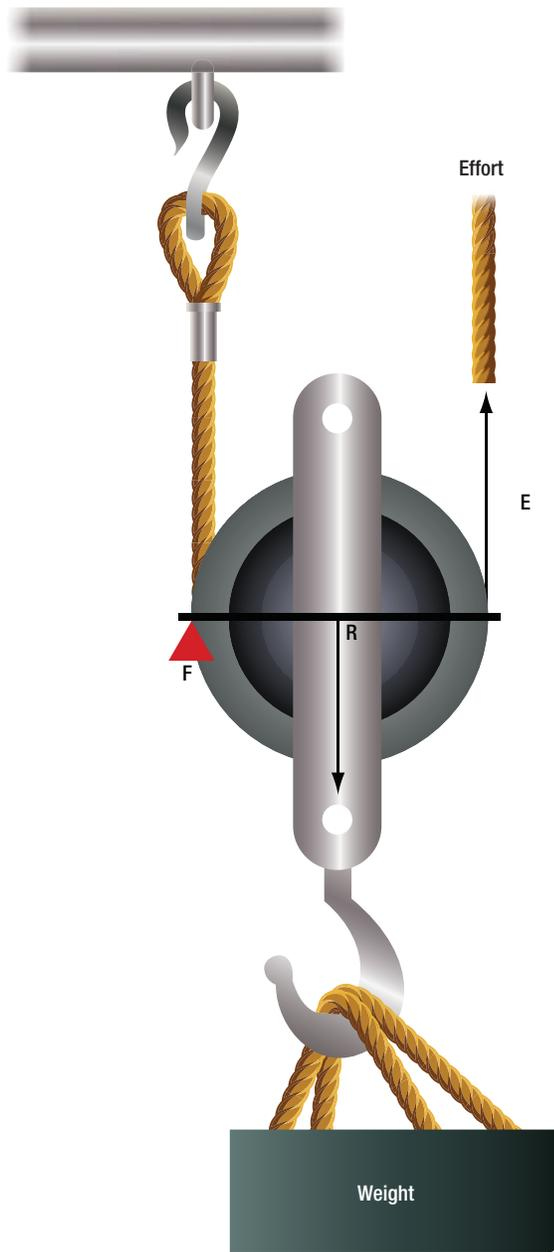

Figure 2-19. Single movable pulley.
A single pulley can be used to magnify the force exerted. In **Figure 2-19**, the pulley is movable, and both ropes extending up from the pulley are sharing in the support of the weight. This single movable pulley acts like a second class lever, with the effort arm (EF) being the diameter of the pulley and the resistance arm (FR) being the radius of the pulley. This type of pulley would have a mechanical advantage of two because the diameter of the pulley is double the radius of the pulley. In use, if someone pulled in 4 ft of the effort rope, the weight would only rise off the floor 2 ft. If the weight was 100 lb, the effort applied would only need to be 50 lb. With this type of pulley, the effort will always be one-half of the weight being lifted.